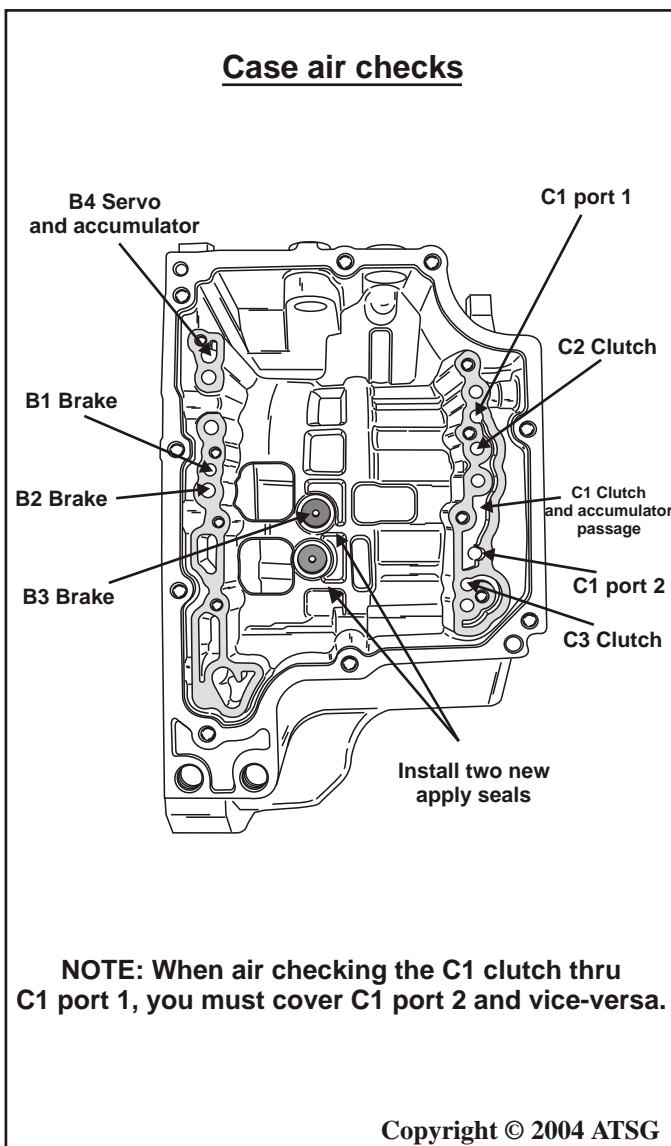

Figure 293
- 217. Turn the transmission to the side and air check each clutch and brake to ensure proper apply. Install two new apply seals. See Figure 293.